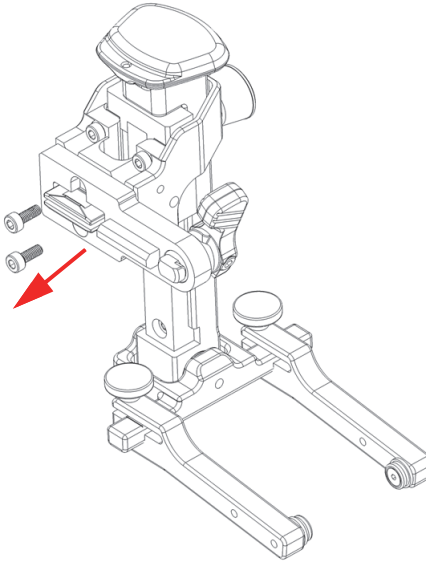

Figure 2-20 Removal of two screws
1. Remove the two screws on the SLA bracket with a 2.5 mm hex key (Figure 2-20 on page 51).